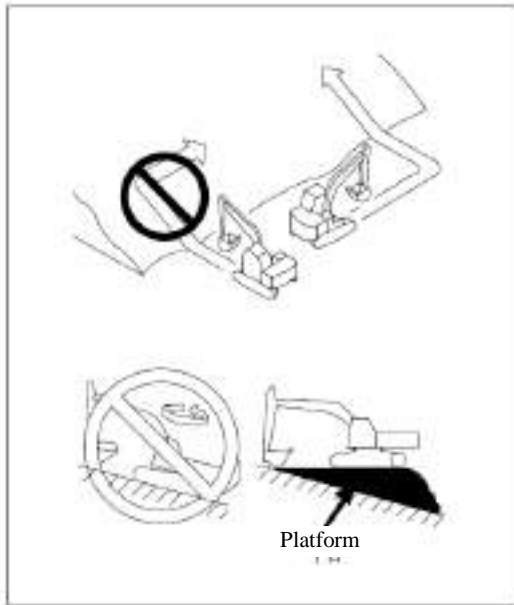

Figure 4-45 Safe operation signs for traveling on slopes
3. Do not turn on slopes or travel across the slope as shown in Figure 4-45. These operations must be carried out on a further but safer flat ground.